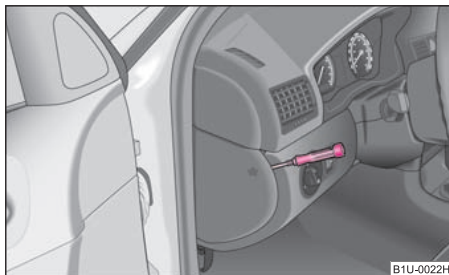

Fig. 175 Fuse cover: left side of the dash panel
- Use a screwdriver to take off the fuse cover on the side of the dash panel ⇒ fig. 175 or the fuse cover in the engine compartment ⇒ page 193.